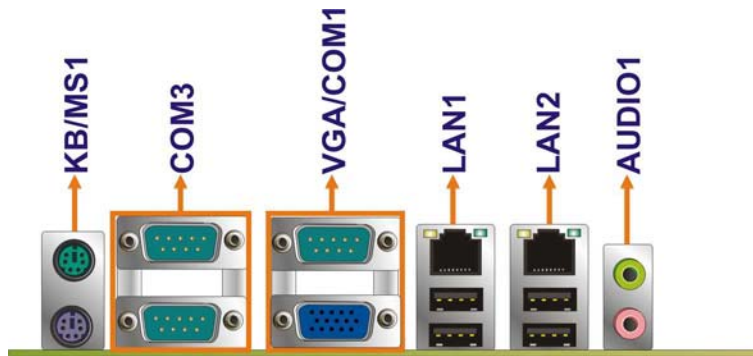

Figure 4-16: KINO-761AM2 External Peripheral Interface Connector
Figure 4-16 shows the KINO-761AM2 external peripheral interface connector (EPIC) panel. The KINO-761AM2 EPIC panel consists of the following:
- CN Location:** See Figure 4-16
CN Location: See **Figure 4-16**
- CN Location:** See Figure 4-16 (see 2)
CN Location: See Figure 4-16